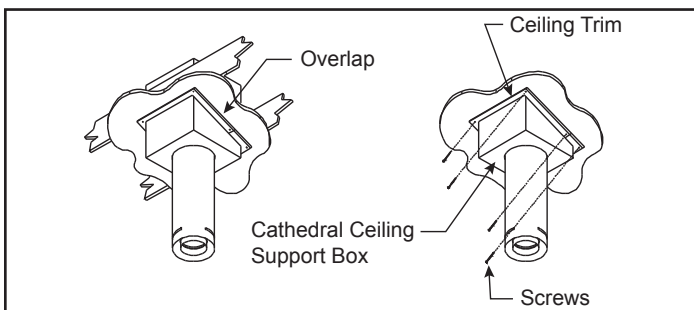

Figure 40
Step 9 - Install the black trim collar around the outside of the Cathedral ceiling support box. The two pieces of the trim collar slide over one another to allow for easy adjustment around the support box. Using the six (6) screws provided, secure the four corners and the overlapping sections of the trim collar to the underside of ceiling. You may want to predrill the holes for the overlapped sections for ease of installation, Figure 40.